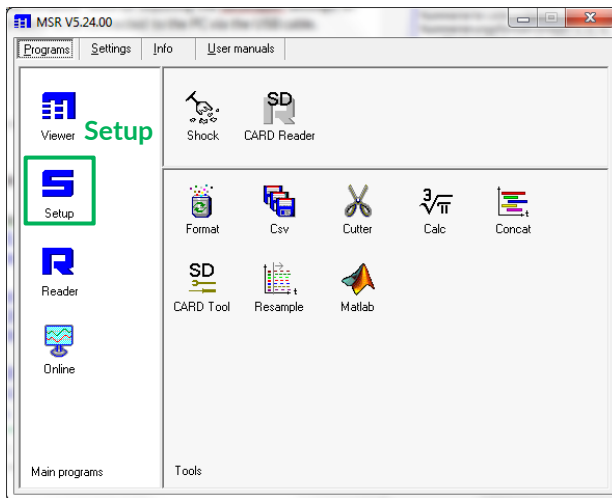

Figure 2: Start screen of read-out software
4. In the **Setup** section (see Figure 2) of the read-out software, choose the tab **User settings**.